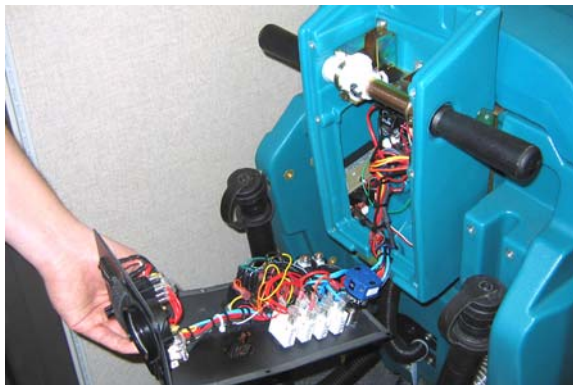

Fig. 1
1. Remove the old control console panel from the machine (Figure 1). Then carefully remove all the electrical components from the panel. **Take note of the component locations and wire connections.**